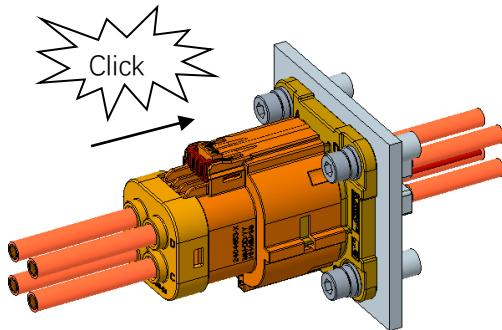

Figure 10
3. Push the CPA until it stops (click will be heard) as shown in Figure 10.
如图 10 所示, 推动 CPA 直到停止 (将听到咔嗒声)。